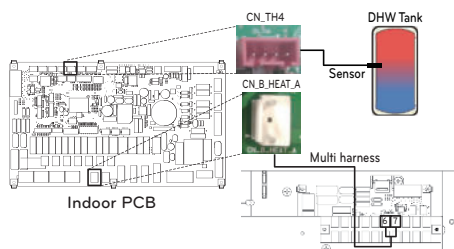

Fig. 1
Step 4. Connect power supply to the DHW tank kit as shown fig. 1.